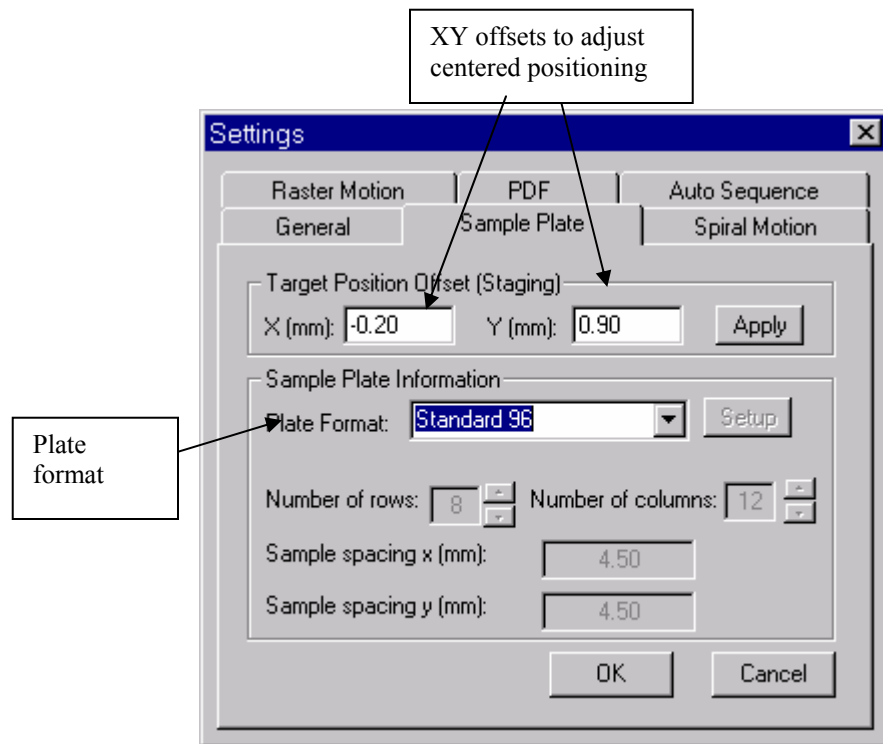
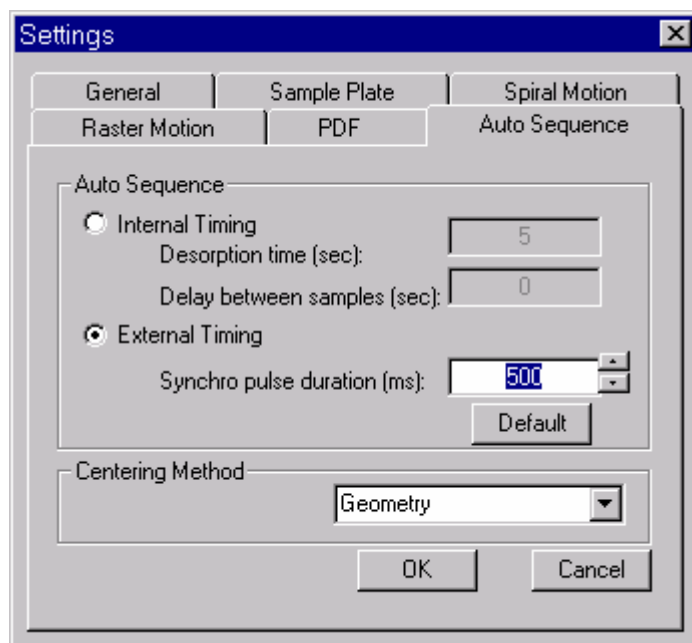

Fig. 7-14 Sample Plate settings in the Target software.
Fig. 7-22 Auto Sequence settings
The settings for the AutoSequence can be found in the Settings menu and are shown in Figs. 7-22 and 7-23. Internal timing is used when the AP/MALDI PDF Control Unit changes sample spots and performs AP/MALDI PDF while the LTQ instrument continuously acquire data (a single file for multiple samples). External timing is used when the AP/MALDI PDF Control Unit sends out start commands to the LTQ trap, and acquires mass spectra in separate files (one file for each sample).
2. **Check** the “AutoSequence” button is activated in the main *TARGET* software window (see Fig. 7-14) and **check** the “External Timing” radio button in the *TARGET*’s “Settings Dialog” window (see Fig. 7-22).